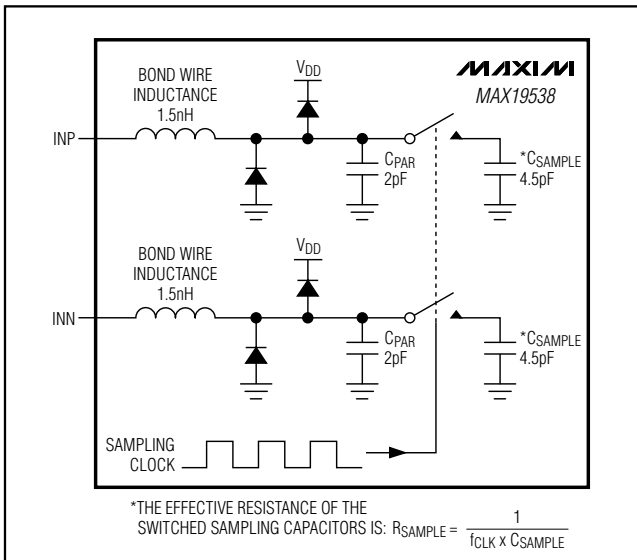
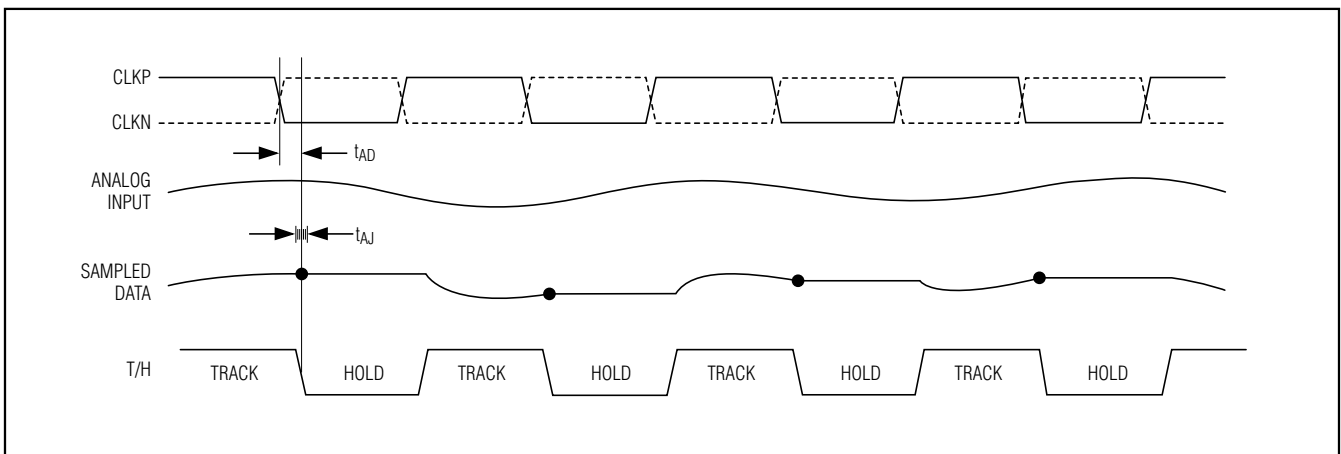

Figure 3. Simplified Input Track-and-Hold Circuit
Figure 4. T/H Aperture Timing
Figure 3 displays a simplified functional diagram of the input track-and-hold (T/H) circuit. This input T/H circuit allows for high analog input frequencies of 175MHz and beyond and supports a  $V_{DD} / 2 \pm 0.5V$  common-mode input voltage.
The MAX19538 sampling clock controls the ADC's switched-capacitor T/H architecture (Figure 3), allowing the analog input signal to be stored as charge on the sampling capacitors. These switches are closed (track) when the sampling clock is high and they are open (hold) when the sampling clock is low (Figure 4). The analog input signal source must be capable of provid-
- INP, INN analog inputs are disconnected from the internal input amplifier (Figure 3).